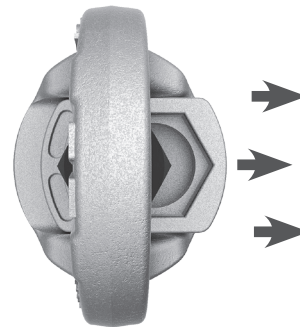
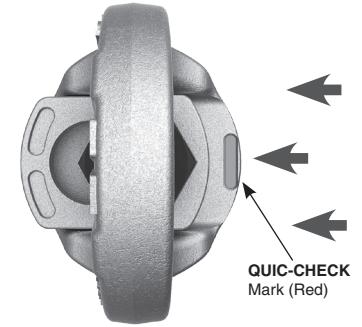

Figure 1
Figure 2
- To check**, look for indented surface (red) on bail. A visible **QUIC-CHECK** mark (Figure 2) means the slide lock and bolt are engaged for installation. When Lifting Point is properly installed, move slide lock to lifting position (Figure 1).
- Never lift load if Red **QUIC-CHECK** indicator is visible. (Figure 2)
- Move the slide lock into the installation position, such that the four flats on the bolt head are engaged. (Figure 2)
- Before applying any load, ensure that the slide lock has been moved back into the lifting position and that the bail is free to rotate. (Figure 1)
- Move the slide lock into the installation position, such that the four flats on the bolt head flats are engaged. (Figure 2)